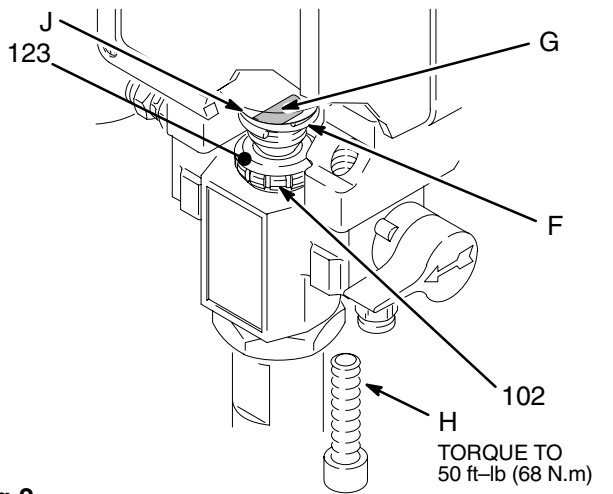

Fig 2
Be sure the retaining spring (F) is firmly in the groove all the way around, to prevent the pin (G) from working loose due to vibration. See Fig 2.